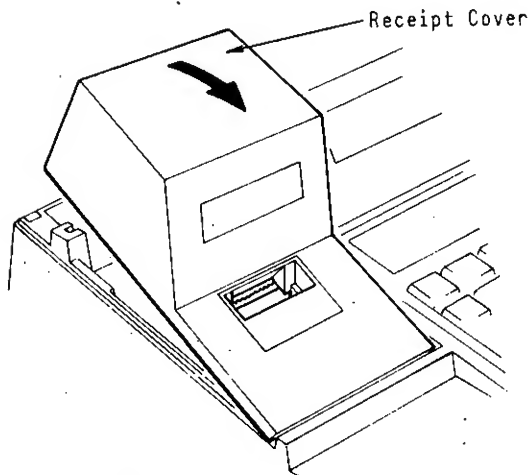

Fig. 1
1. Remove the Receipt Cover. (Fig.1)